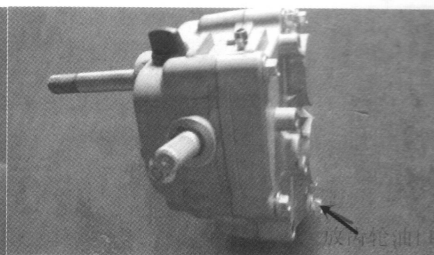

Fig.6
e. Dismantle the bolts off gear oil (See Fig.6)